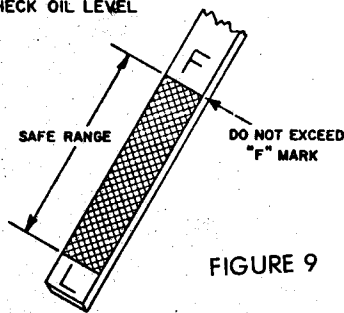
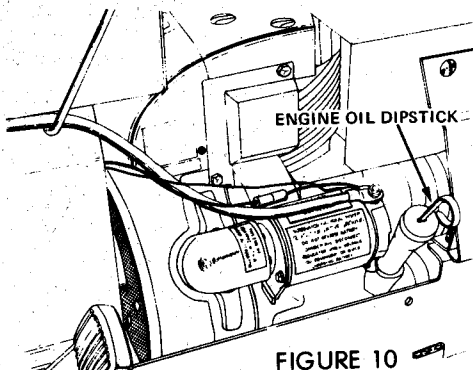

FIGURE 9
FIGURE 10
Check the engine crankcase oil level daily or every 5 hours operation. It is essential that the oil level be maintained in the "safe" operating range as shown in Figure 9 at all times or serious engine damage could result.
To check the oil, stop engine and wipe all dirt and dust from around the dip stick, Figure 10. Pull dip stick out, wipe off the oil, re-insert dip stick and push it down tight. Pull the dip stick out and observe the oil level. Add sufficient oil of the proper viscosity to bring the oil up to the "fill" (F) mark, see Figure 9. Be sure tractor is level to correctly read dip stick.